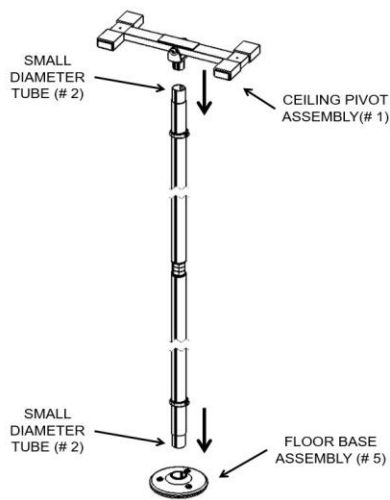

FIGURE 5
Assemble both LARGE DIAMETER TUBES (# 3) onto the THREADED ADJUSTMENT ASSEMBLY (# 4) by aligning the grooves in the tubes with the grooves in the LARGE DIAMETER TUBES (# 3). Fully engage the tubes onto the collars as shown in Figure 5.
5. Insert the CEILING PIVOT ASSEMBLY (# 1) into the SMALL DIAMETER TUBE (# 2) as shown in Figure 5. **IMPORTANT: Remember that the Black color spring clip in the THREADED ASSEMBLY (# 4) must be installed closest to the ceiling.**
Place the FLOOR BASE ASSEMBLY (# 5) on the floor where the product is to be installed and then insert the other SMALL DIAMETER TUBE (# 2) into the FLOOR BASE ASSEMBLY (# 5) as shown in Figure 5.